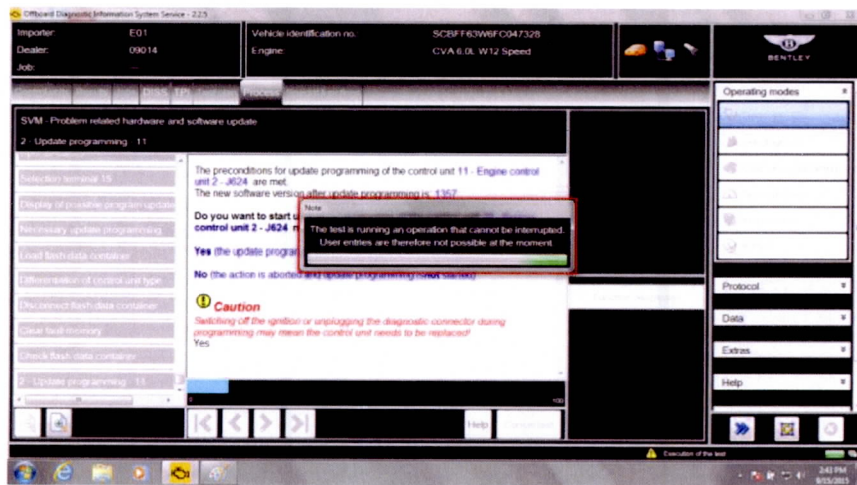

Figure 7
16. During update a progress bar will be displayed (see Figure 7)
20. During update a progress bar will be displayed (see Figure 7)
24. During update a progress bar will be displayed (see Figure 7)